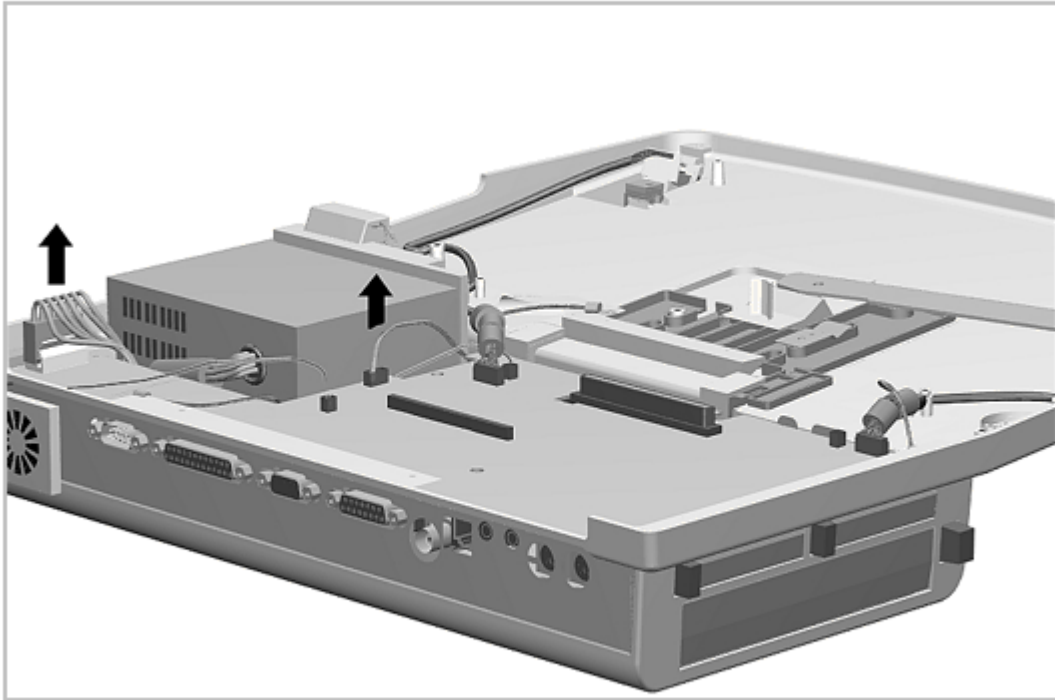

Figure 7-15. Disconnecting the Power Supply
3. Disconnect the power supply from the main board (Figure 7-15).
4. Disconnect the power supply fan cable from the main board (Figure 7-15).